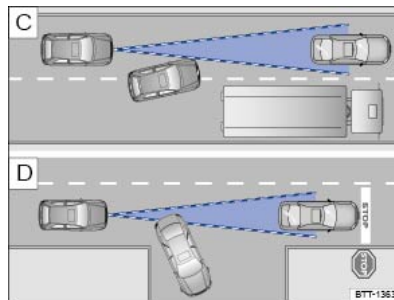

Fig. 144 Vehicle changes lane. Turning vehicle and stationary vehicle.
If a stationary vehicle is hidden behind a vehicle that has been detected by the adaptive cruise control and this vehicle turns off the road or changes lane, the ACC will not react to the stationary vehicle ⇒ Fig. 144 **D**.
- Vehicles that change into your lane directly in front of your vehicle ⇒ Fig. 144 **C**.